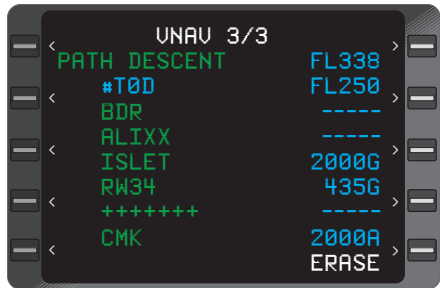

Figure 2-44
- **#TOD:** Indicates the Top of Descent target altitude. (Figure 2-44)
- **#PRESL:** Indicates the estimated position where the aircraft will arrive at the altitude shown on the Altitude Pre-Selector. Field does not appear unless the system is configured for an altitude preselector and the aircraft is flying toward this altitude. (Figure 2-44)